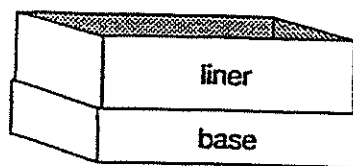

Figure 2
2. Fold an extra cardboard piece so that it forms a liner around the inside of the base (see Figure 2).